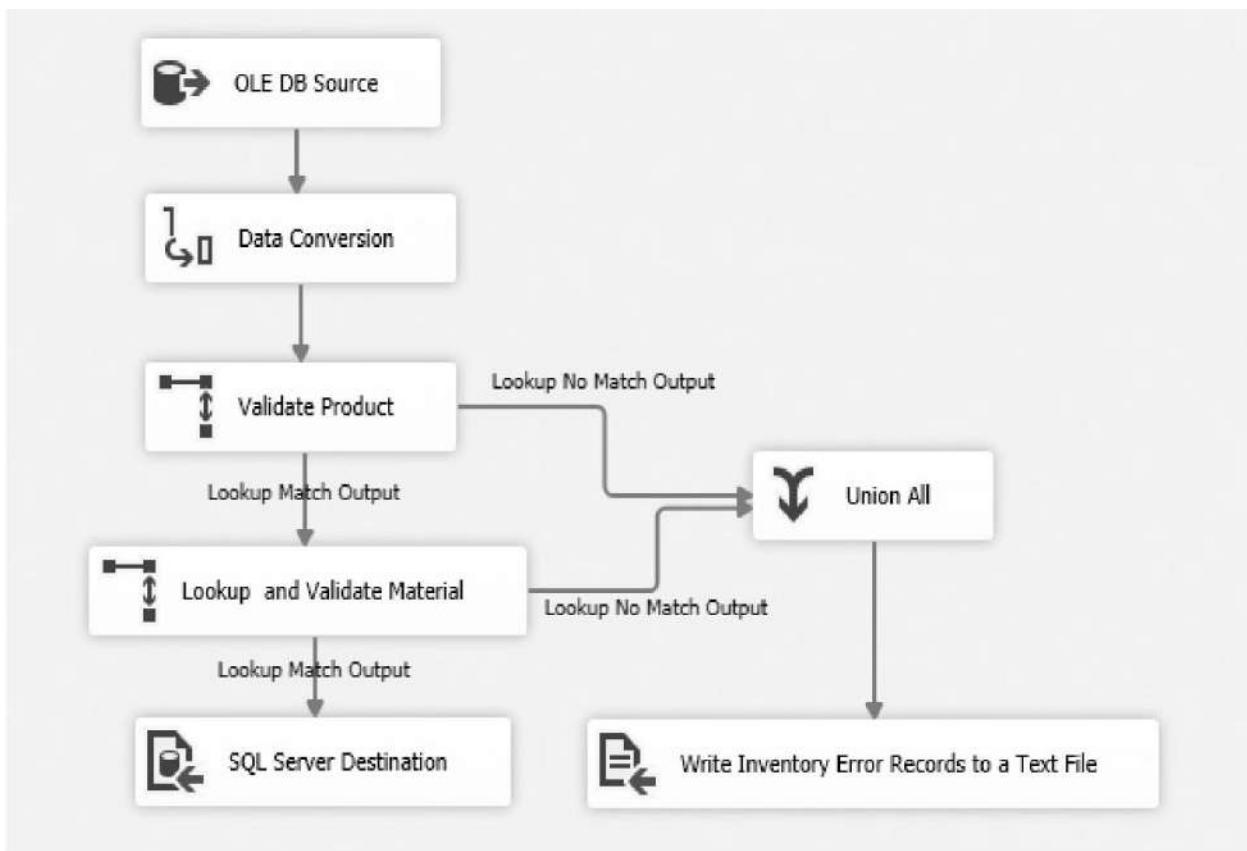

Figure 8-20 The data flow to load the *Inventory* fact table
17. Click OK to exit the Flat File Destination Editor dialog box. The Data Flow tab should appear as shown in Figure 8-20.